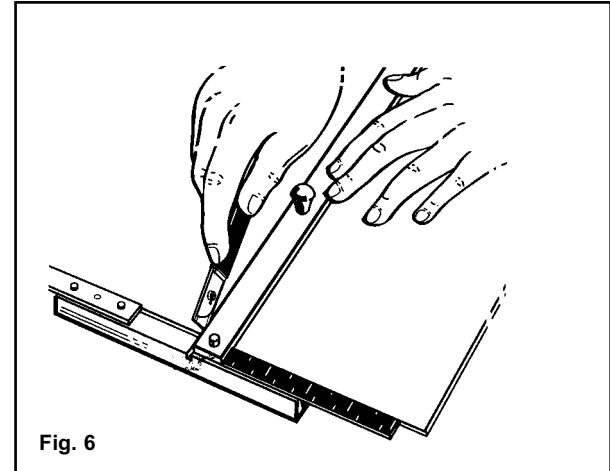

Fig. 6
3. Stand with squaring bars furthest from you, hold knife vertically along edge of guidebar at 45 degree angle. Place blade tip beyond edge of matboard. Draw knife across matboard towards yourself. (Fig. 6)